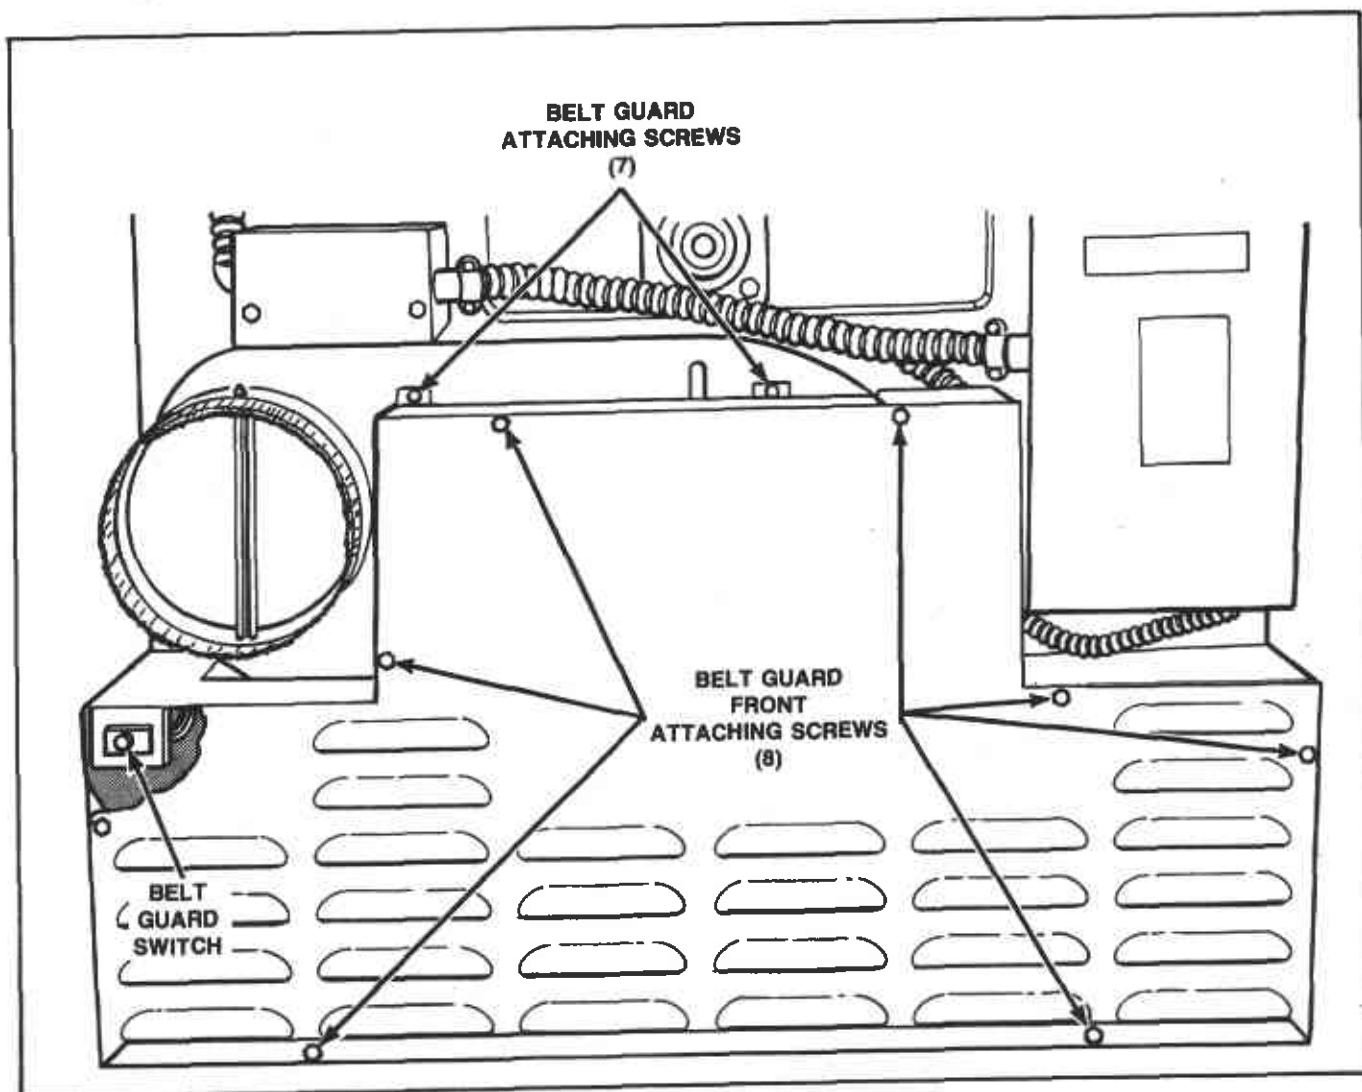

Figure 28
### 30. BELT GUARD AND BELT GUARD SWITCH (Figure 28)
- b. Remove screws holding belt guard front to belt guard, Figure 28.
- Remove belt guard front from belt guard, *Figure 28*.